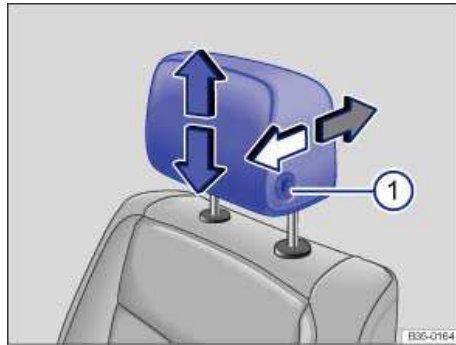
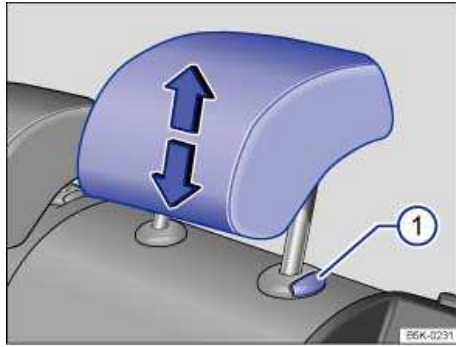

Fig. 48 Adjusting the front head restraints.
Fig. 49 Adjusting the rear head restraints.
- ☐ Pull the head restraint up in the direction of the arrow, or push it down while pressing the button ⇒ fig. 48 \(1\) or ⇒ fig. 49 \(1\) ⇒ ⚠.
- ☐ Push the head restraint forward in the direction of the arrow or slide it back with the button pressed ⇒ fig. 48 \(1\).